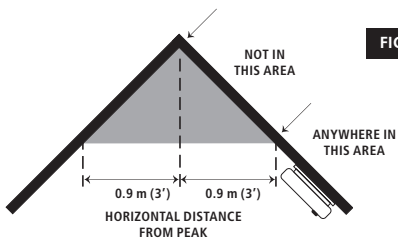

FIGURE 2B
- Install smoke alarms on sloped, peaked or cathedral ceilings following the mounting guidelines outlined in Figure 2B and 2C. Smoke alarms in rooms with ceiling slopes greater than 0.3 m in 2.4 m (1 foot in 8 feet) horizontally shall be located on the high side of the room (Figure 2B and 2C).
- Do not install in peaks of vaulted ceilings. In this area install as shown in Figures 2B and 2C.